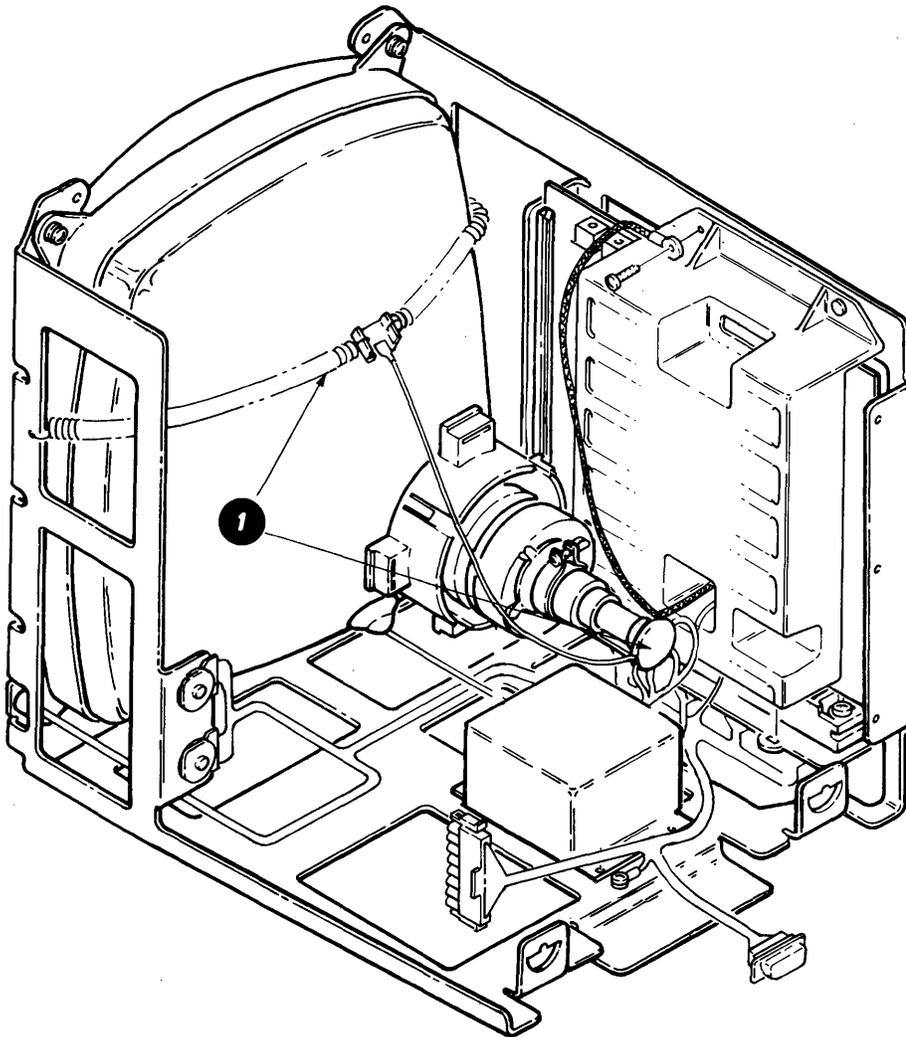

Figure 4-10. CRT Ground Spring
Whenever the rear cover is removed from the large display, **ALWAYS** ensure that the CRT (Cathode Ray Tube) ground spring is in place and that it is connected to the CRT socket ①. (See Figure 4-10.) Do this before any type of service is performed.
4. Always check to ensure the ground spring around the CRT is in place, and that it is connected to the CRT socket, before performing any type of service. (See Figure 4-10.)